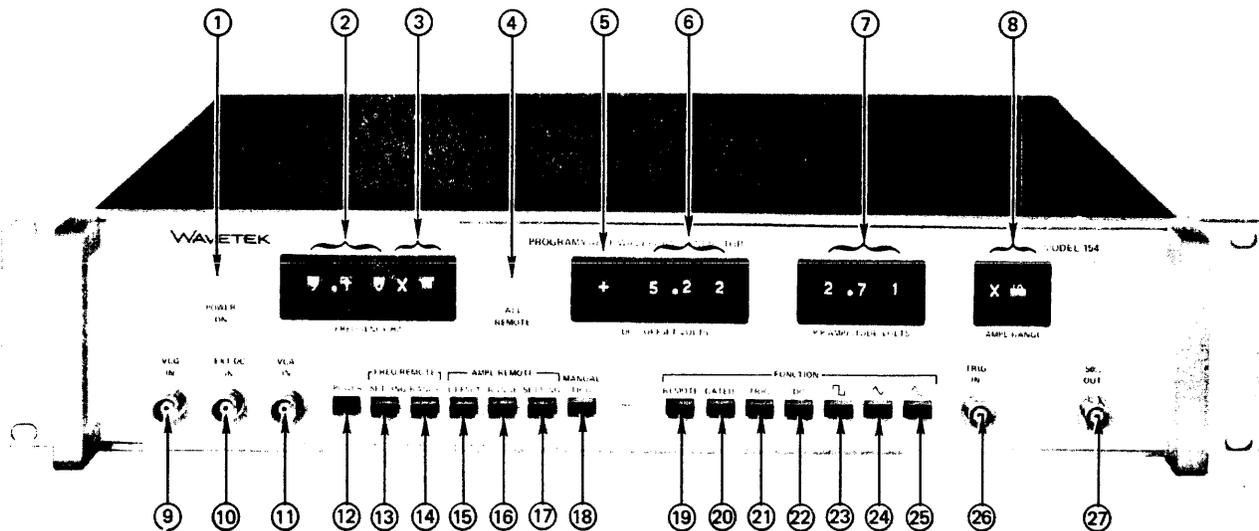
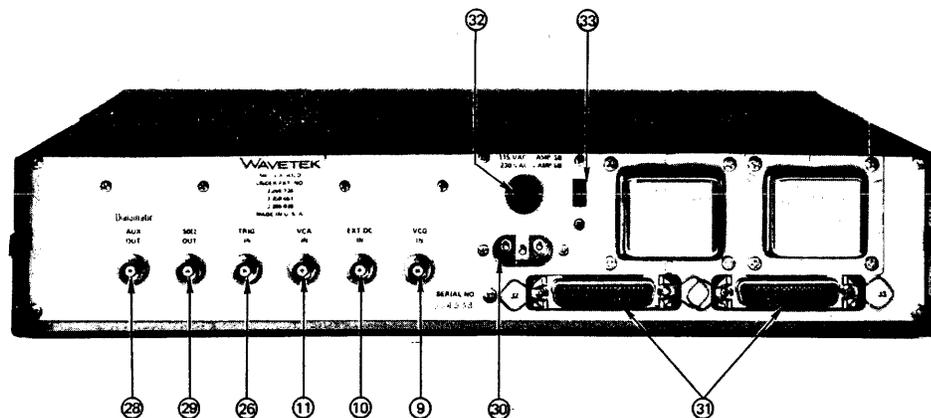

Figure 2-1. Operating Controls, Front Panel
Figure 2-2. Operating Controls, Rear Panel
The operating controls and electrical connections for the Model 154 are shown in Figures 2-1 and 2-2. Each of the following paragraph numbers corresponds to a number appearing in Figure 2-1, front panel, and Figure 2-2, rear panel.
2. **Frequency Hz Setting** – A three-digit thumbwheel switch is provided for output frequency selection. For the actual output frequency, this value is multiplied by the frequency Hz range multiplier (3).
3. **Frequency Hz Range Multiplier** – This thumbwheel switch has ten decade ranges from 1 millihertz to 1 megahertz. This value multiplied by the setting (2) gives the output frequency.
4. **All Remote Indicator** – When all the front panel remote push buttons are in (button Nos. 13, 14, 15, 16, 17 and 19, see Fig. 2-1), the indicator is illuminated. This means the generator is completely controlled by remote programming and independent of the front panel controls. In this condition a signal ($> +3$ Vdc) appears at pin 15 of plug J3 for computer notification.